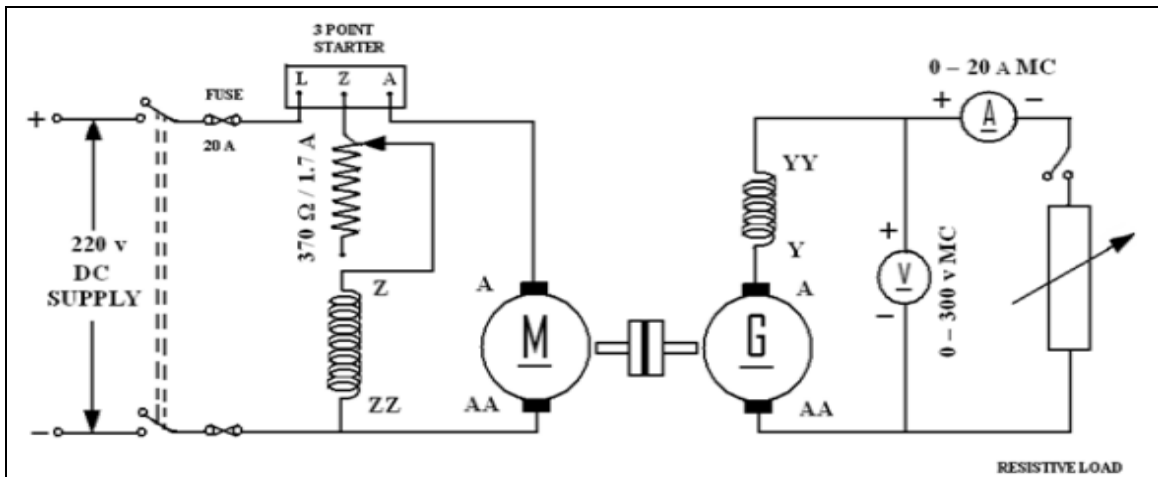

Figure 3 – Load Test on D.C Series Generator
1. Calculate the different armature currents (i.e. I_a equal I_L plus I_f) for series generator under various Loads In Figure 3.